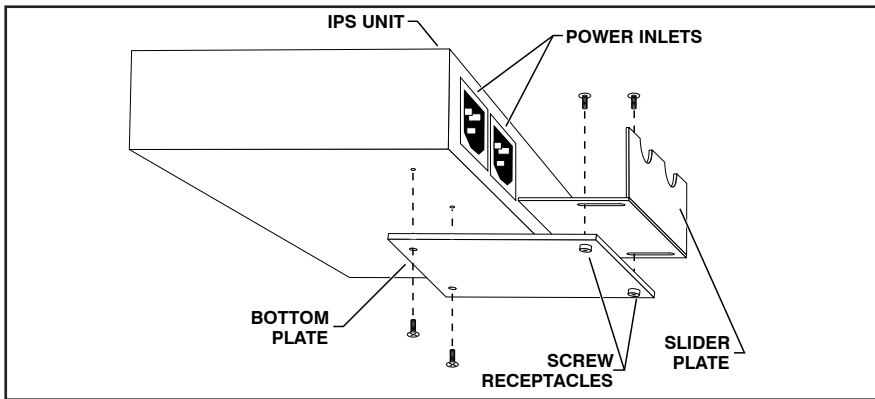

Figure 4.1: IPS-800 Series Cable Keeper Installation
2. Use the screws supplied with the cable keeper kit to attach the bottom plate to the underside of the IPS-800 unit as shown in Figure 4.1. When properly attached, the bottom plate will protrude about one inch beyond the edge of the IPS-800 unit.
3. Use the screws supplied with the cable keeper kit to loosely attach the slider plate to the bottom plate as shown in Figure 4.1. Make certain that the slider plate moves freely, ensuring that it can be easily moved into position once the power cables are in place.